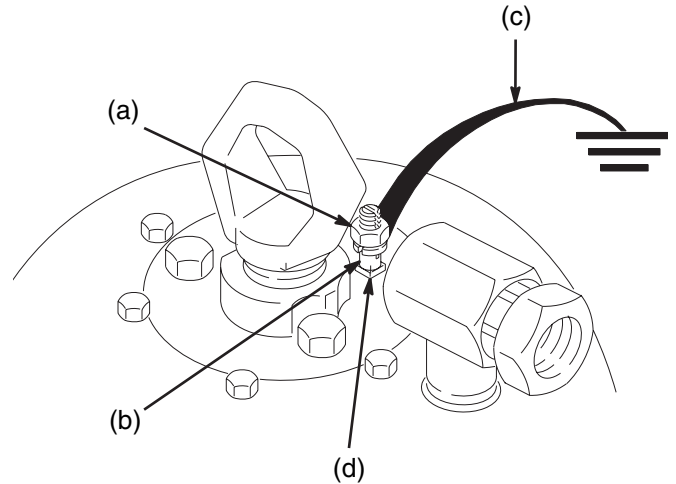

FIG. 1
- *Pump:* (FIG. 1) Use ground wire and clamp (supplied). Loosen grounding lug locknut (a) and washer (b). Insert one end of ground wire (c) into the slot in the lug (d). Tighten locknut securely. Connect other end of wire to a true earth ground.